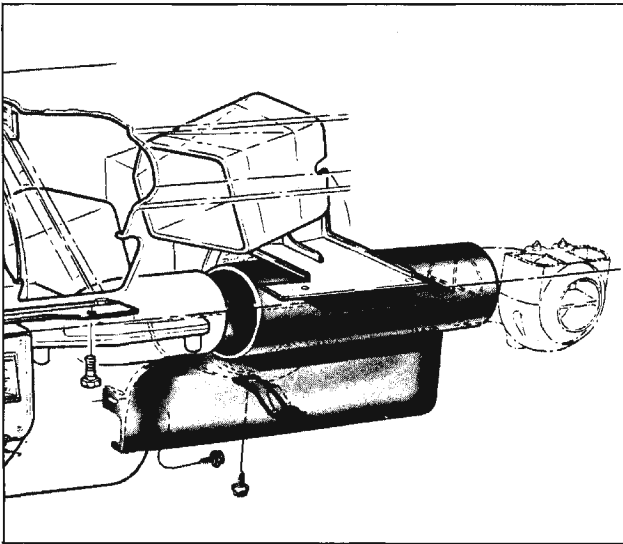

Fig. 15-124 Duct Removal
2. Remove R.H. duct. (Fig. 15-124)